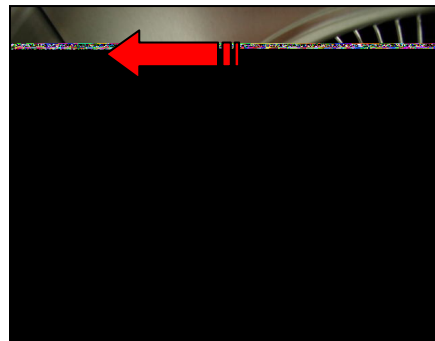

Figure 31
2. Slide oil container (oval) into plastic slot behind each safety screen as shown in Figure 31.